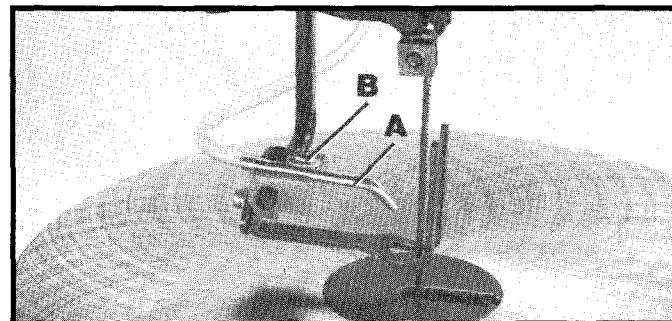

Fig. 36
The dust blower (A) Fig. 36, may be moved to direct air to the most effective point on the cutting line by loosening screw (B), adjust nozzle (A) accordingly and tighten screw (B).